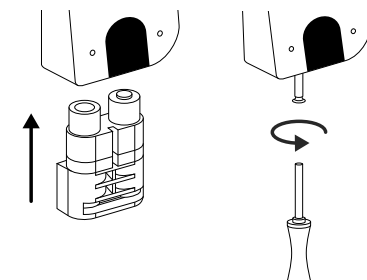

Fig. 5
- ⑤ Insert the battery compartment back into the housing and screw it tight (Fig. 5).